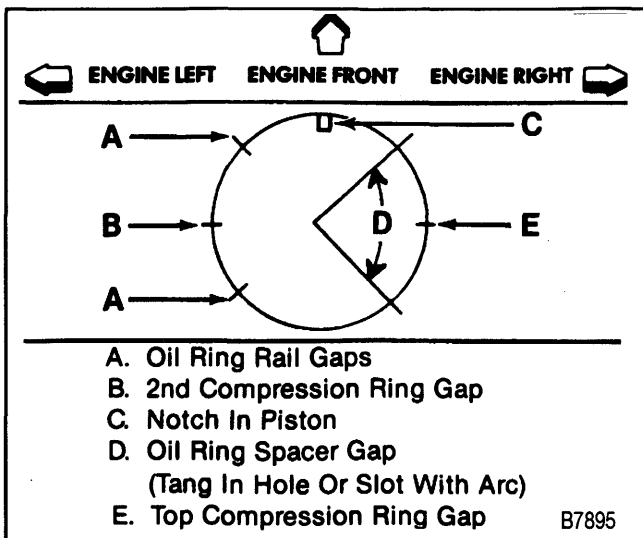

Figure 43—Piston Ring End Gap Locations
- B. Locate the piston ring end gaps as shown in figure 43.
- E. The piston must be installed so the notch in the piston faces the front of the engine (figure 43).